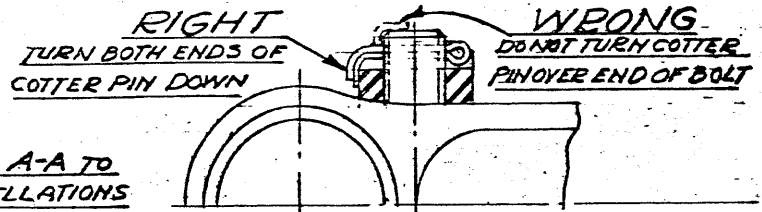

FIG. 4 FULL SIZE
7. Install cotter pin as shown below in Figure 4. Be sure to bend both ends of cotter pin as indicated and do not bend one of them over the end of the bolt since, otherwise, the adjacent link rod may strike it.